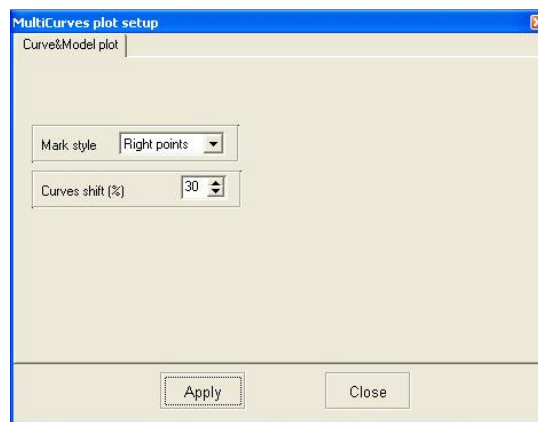

Fig. 21 Curve parameters setup dialog
Setup option runs curve parameters setup dialog (fig. 21).
**MultiCurves Plot Setup** option (fig. 21) runs curve parameters setup dialog described above.